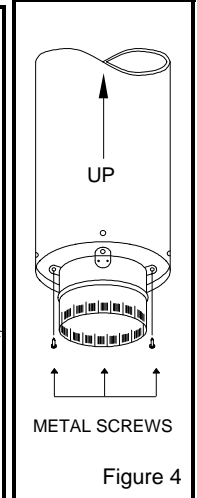

Figure 4
- 3 Attach the flue extension (found in the support box) to the bottom of the first chimney length using the 3 metal screws provided (see Fig. 4).